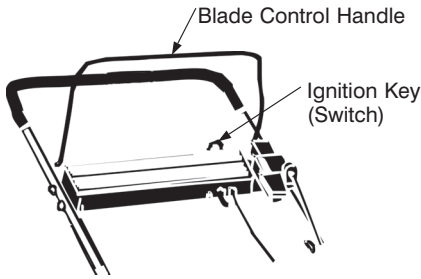

Figure 11-(Electric Start Units Only)
- Standing behind the unit, depress the blade control handle and hold it against the upper handle as shown in Figures 11 and 12.
- Turn the ignition key to the right to start the engine. Release the key after engine starts. See Figure 11.